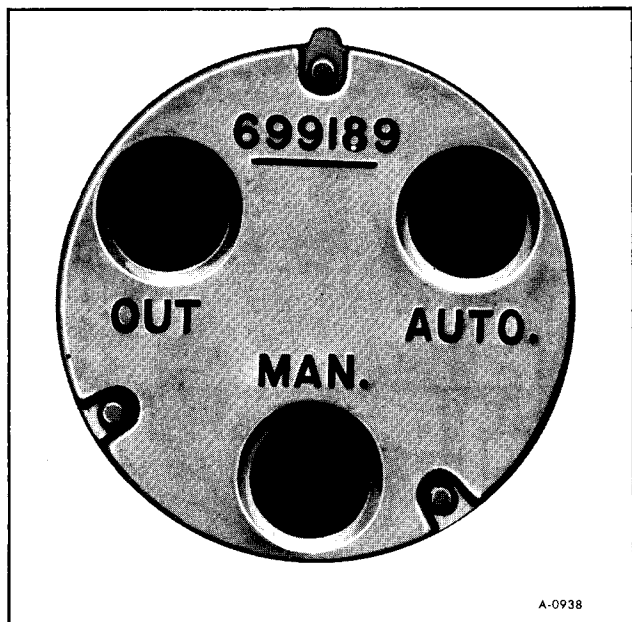

Figure 66—Power Level Valve Port Identification
2. Install lines to back of valves, referring to Figure 66. On the right valve, red line goes to the port marked "MAN.," blue line goes to the port marked "OUT," and yellow line goes to the port marked "AUTO." On left valve, red line goes to the port marked "MAN.," gray line goes to the port marked "OUT," purple line goes to the port marked "AUTO."